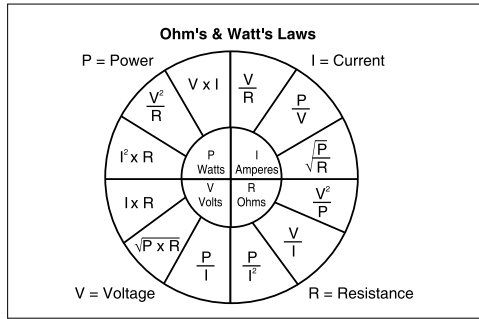

Fig. 35: Chart showing relationship amongst current, voltage, power and resistance
power (P) consumed by the resistor can be expressed in various ways or formulae as shown in Fig. 35.